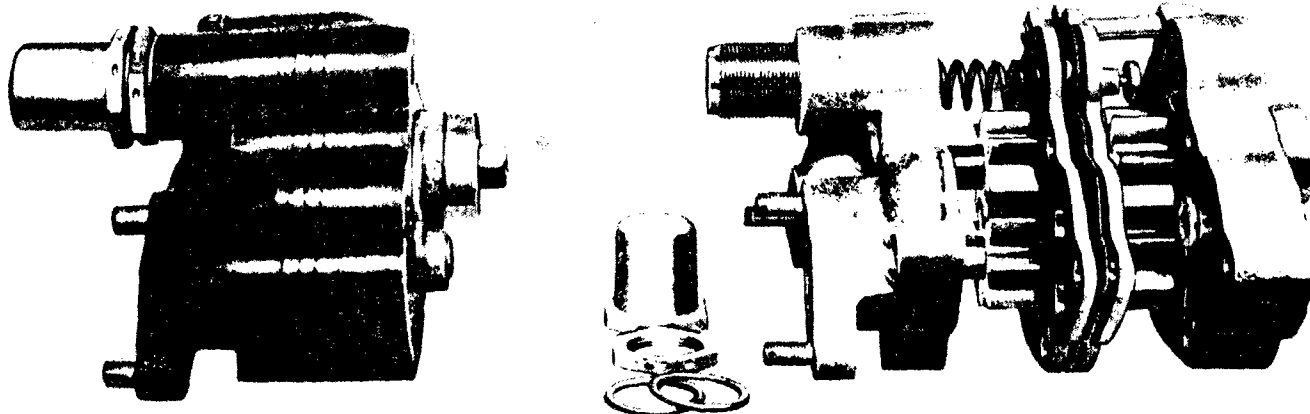

Figure 53 — Duplex Pressure and Scavenge Oil Pump for W670 Engine
(1) **Duplex Oil Pump** (See figure 53)